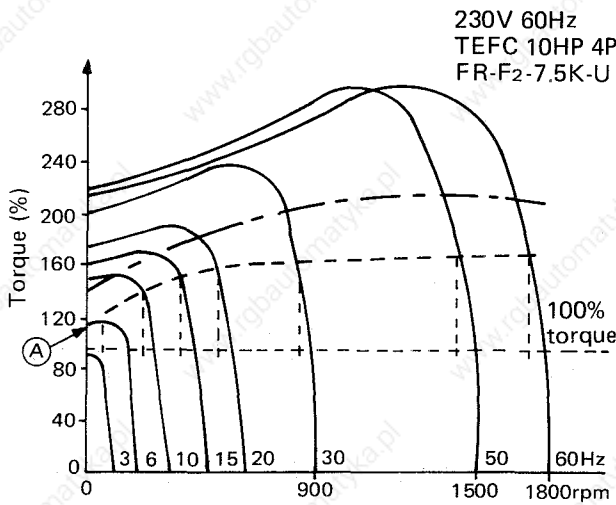

Fig. 5.2 Speed vs. Torque Curve
However, the starting and accelerating characteristics of motor, which is combined with an inverter, are restricted by the current characteristics of the combined inverter, and therefore, are different from those in direct starting by commercial power source. In other words, since the motor is accelerated with current at the time of motor start and acceleration kept lower than the current limit level of inverter (generally, 150% of rated current), starting torque and accelerating torque are smaller than those of direct start by commercial power source. Fig. 5.2 and 5.3 shown examples of speed vs. torque and current characteristic curves of general-purpose motor. When the motor is combined with a rated-capacity inverter, the torque at speed corresponding to the intersecting point with the 150% current value (rated current reference of inverter) and the current characteristics of each frequency is the maximum torque (short-time rating) generated by the motor. The starting torque at the speed of 0 rpm is 110% (A) point) in the example below.
When the capacity of inverter to be combined is increased by one rank, the starting torque and maximum torque increase, as shown in Fig. 5.2, proportional to the increase of current limit level. When the starting torque and maximum torque are insufficient, the increase of inverter capacity by one rank is one of effective methods.